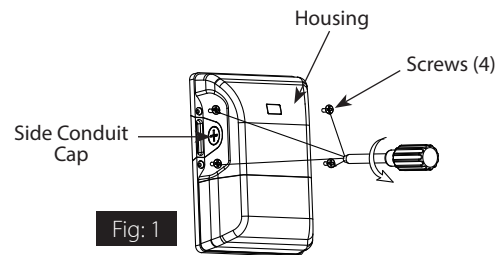

Fig: 1
1. Loosen **Housing** side **Screws (4)** as shown in **Fig. 1**.
6. Place wired **Housing** over the **Housing Back Plate** and secure with (4) **Screws** (*provided*) as shown in **Fig. 1**.
7. For **Side Conduit** wiring, remove **Side Conduit Cap** using a screwdriver as shown in **Fig. 1**. Feed supply wires through conduit opening with a suitable connector as shown in **Fig. 5**. Wire the driver leads to the supply wires using UL listed wire connectors according to NEC and local codes (**Fig. 9**). Refer to Step 6 for mounting **Housing** to surface or junction box.